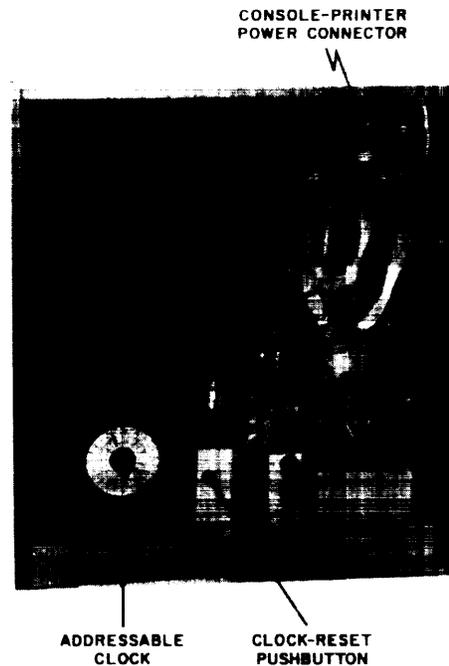

Figure 3-7. Addressable Clock
- (3) Push AC ON/AC OFF pushbutton. Red half (AC ON) of power indicator should light; green half should extinguish.
- (4) Observe monitor panel. If any yellow indicator lights, take whatever corrective action is needed.
- (5) Verify setting of addressable clock. If setting is incorrect, set clock. Whenever you turn on system power, push clock-reset pushbutton (figure 3-7).
To set the addressable clock (figure 3-7), turn the knurled inner knob clockwise to set the minute hand, and turn the outer knob clockwise to set the hour hand. Note that the hour scale (the outer scale) is a 24-hour scale and that the hour hand is the longer black hand.
- (1) Turn off system power.
- (2) Open printer-compartment door and printer cover. Tear off the paper at loading plate, and remove paper supply from paper compartment.
- (3) Disconnect three printer cable connectors (figures 3-7 and 3-8).
- (4) Slide out drip pan and unlock and remove four quarter-turn fasteners from below printer chassis.
- (5) Carefully pull printer to rear until friction catches at front of the chassis release.
- (6) Slide printer to rear and lift it out.
- (7) Slide replacement printer into position, and push until friction catches engage.
- (8) Connect cables, reload paper, and close cover and door.
- (9) Turn on system power.